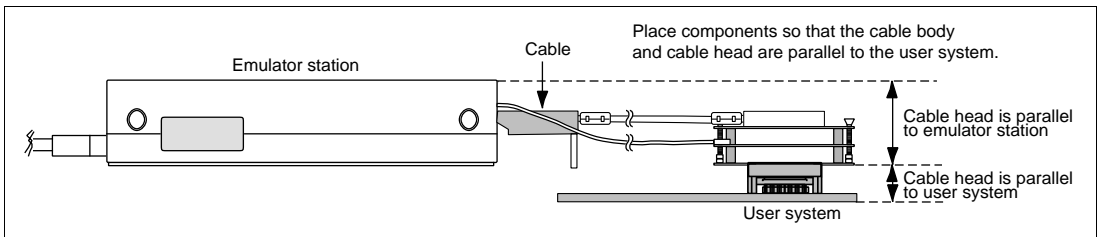

Figure 14 User System Interface Cable Location Example
4. While the emulator station is connected to the user system with the user system interface cable, force must not be applied to the cable head. Position the emulator station, user system interface cable, and user system as shown in figure 14.